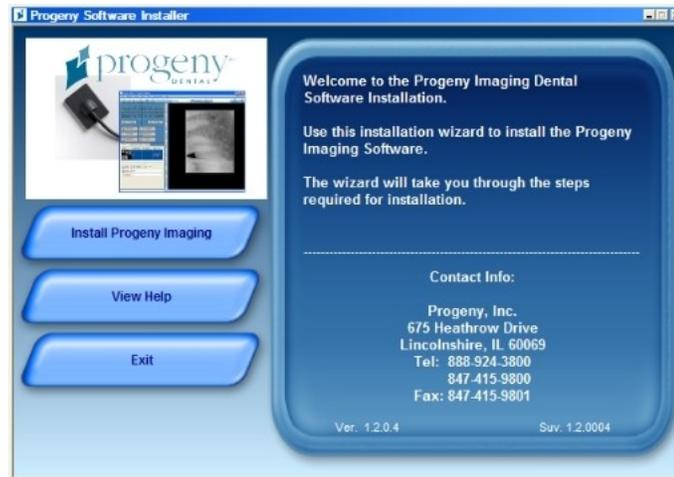

Figure 65
1. Insert the Progeny Imaging Installation disk into the computer's optical (CD-ROM or DVD) drive. The Progeny Software Installer starts automatically (see Figure 65 on page 41).